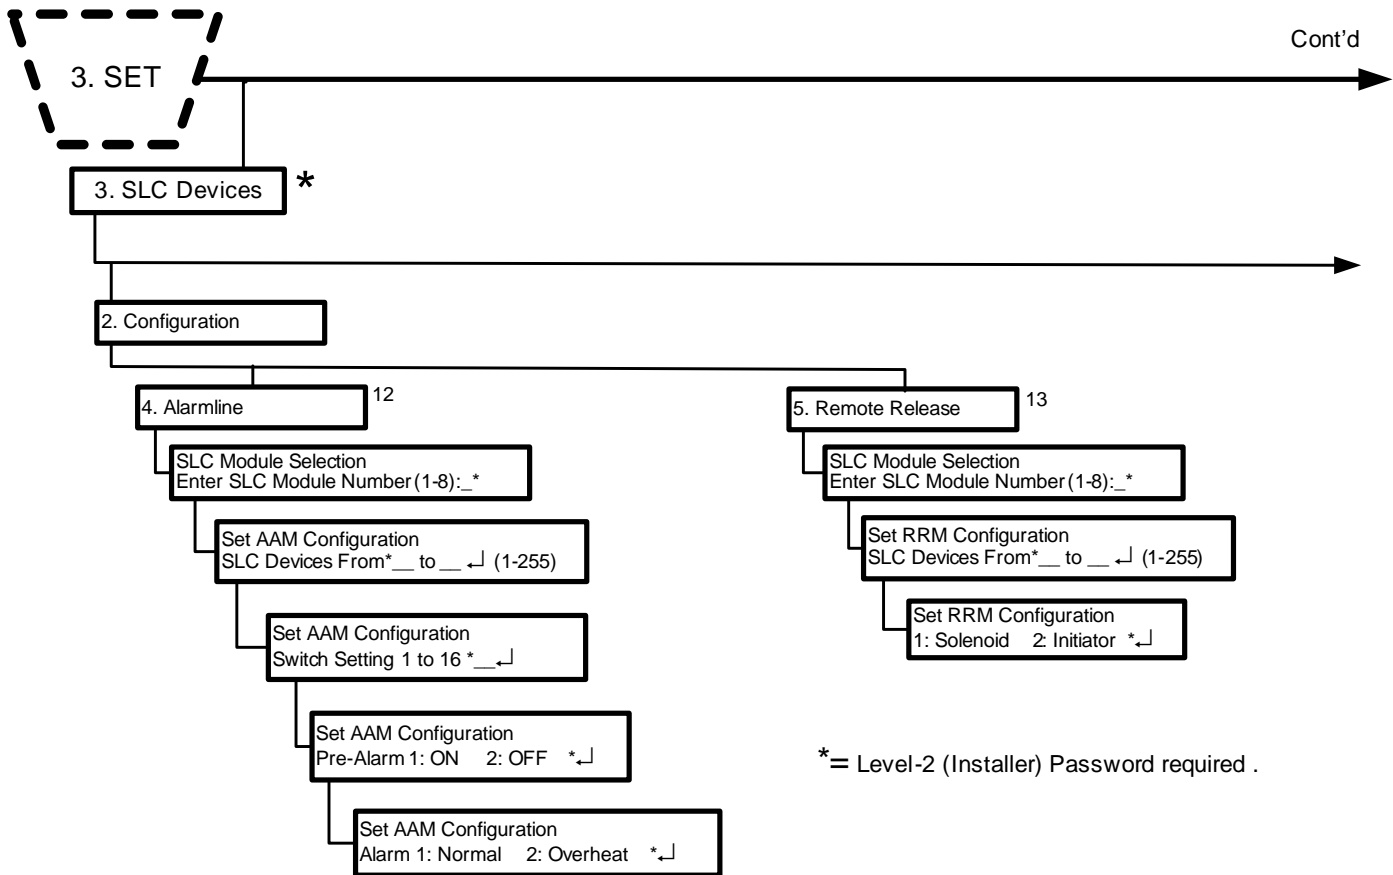

Figure 3-20. FenwalNET 8000-ML Set Menu Functions (Cont'd - Fig. 4 of 14)
FOOTNOTES (Figure 3-20):
**Exception:** AIMs require additional configuration via the LaserNET™ software, APICs require additional configuration via the AIR-Intelligence™ Remote Configuration Software and AAMs require additional configuration via the SET Menu or the FenwalNET 8000-ML Configuration Software after an AutoLearn Procedure. Refer to Figure 3-20 to configure AAMs via the SET Menu.